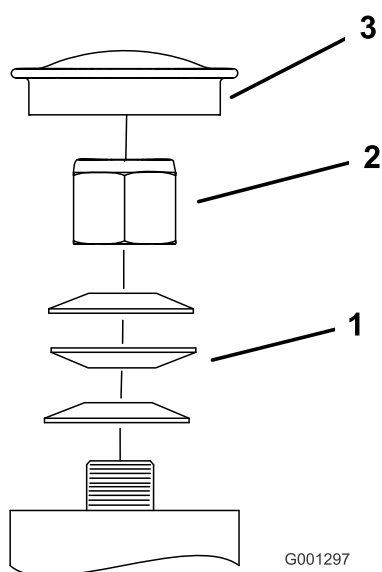

Figure 70
3. Remove the dust cap from caster and tighten the locknut (Figure 70).
4. Tighten the locknut until the spring washers are flat, and then back off a 1/4 turn to properly set the preload on the bearings (Figure 70).
Important: Make sure that the spring washers are installed correctly as shown in Figure 70.
5. Install the dust cap (Figure 70).